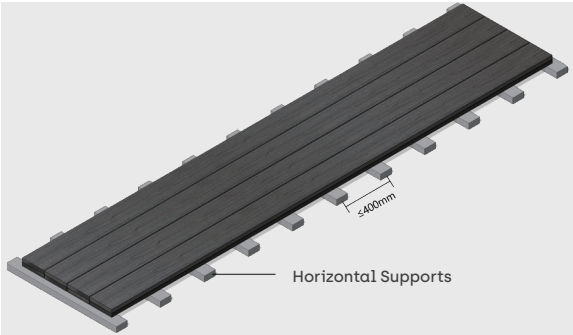

Figure 1-1
① Decking boards must be stored on a flat surface or on horizontal supports. The spacing between horizontal supports should be $\leq 400\text{ mm}$, as shown in Figure 1-1.